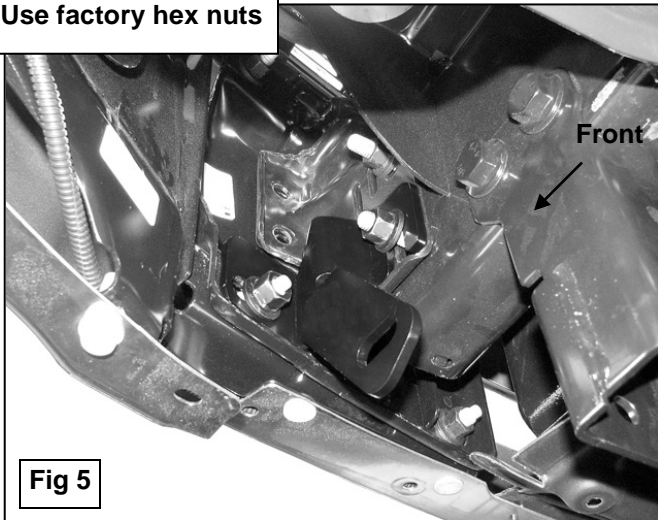

Fig 5
4. Select the driver side Support Bracket. Remove the (2) factory hex nuts securing the lower part of the bumper to the bumper bracket. Line up the mounting hole and slot in the Bracket with the (2) bumper bolts and secure with the factory hex nuts, **(Figure 5)**. Snug but do not tighten hardware at this time. Repeat Step 3 – 4 for passenger side Mounting Bracket installation.